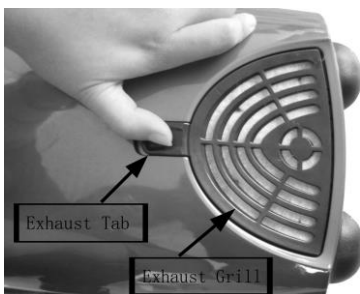

Fig.6
1. Pull up and hold the exhaust tab and pull out the exhaust cover. (Fig. 6)